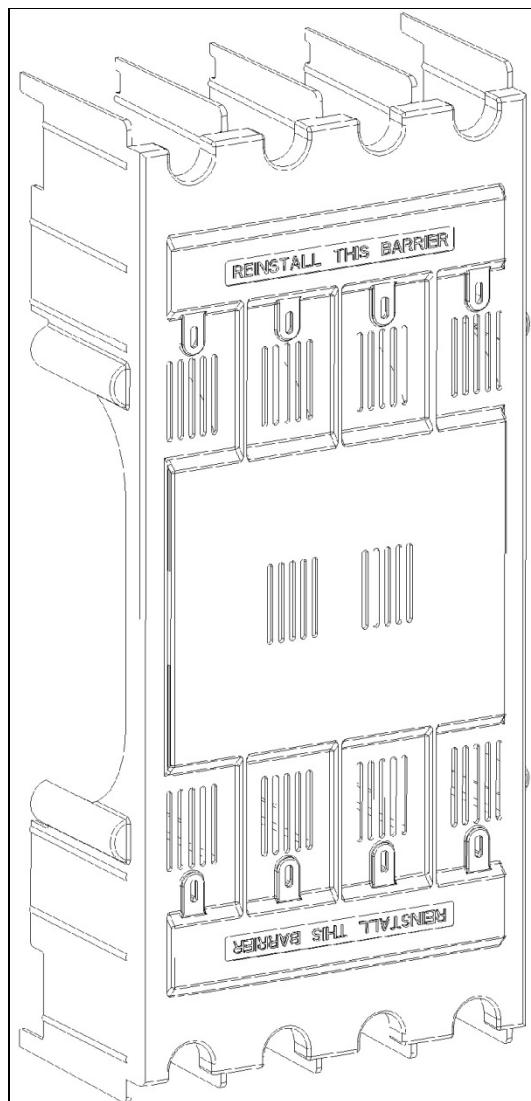

Figure 20. Barrier removal
- Remove the barrier** (Figure 20). Use a phillips screwdriver to loosen (ccw) four or six captive round-head screws holding the barrier to the arc chutes. Then pull the barrier straight outward to remove it.
- Reinstall the barrier**. Install the barrier over the arc chutes. Use a phillips screwdriver to tighten (cw) the four or six round-head screws to secure the barrier to the arc chute insulator nuts. See Figure 20.